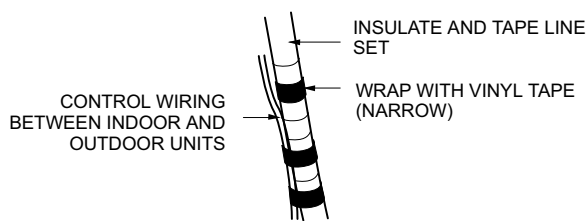

FIGURE 44
4. Tape the control wiring to the line set bundle (figure 44).